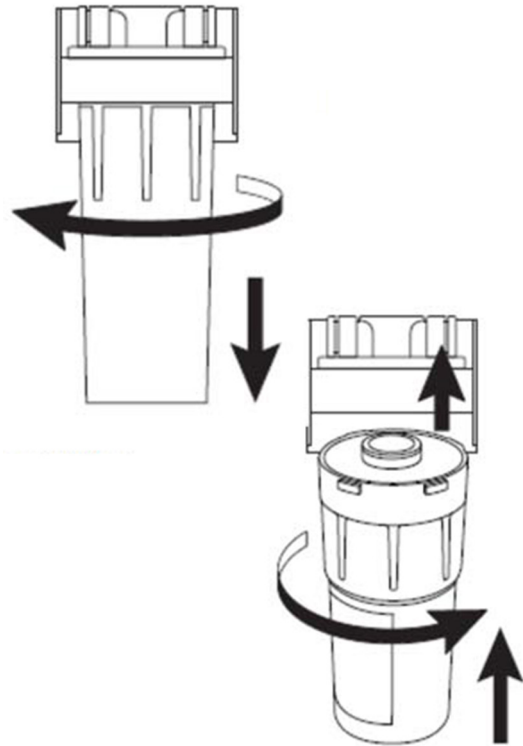

Fig. 4
3. Grasp filter cartridge, turn counterclockwise $\frac{1}{4}$ turn (when viewed from bottom) and pull downward about $1\frac{1}{2}$ " to remove the filter cartridge (Fig. 4). Properly dispose of old cartridge.
7. Turn cartridge clockwise (when viewed from bottom) $\frac{1}{8}$ turn until a definite stop is felt and cartridge is sealed (Fig. 4). Hand tight is sufficient.